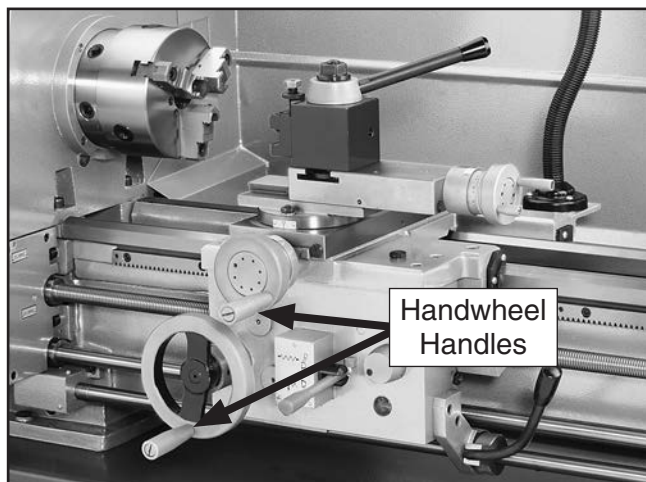

Figure 13. Handwheel handles attached.
7. Attach handles to cross slide and carriage handwheels (see **Figure 13**).